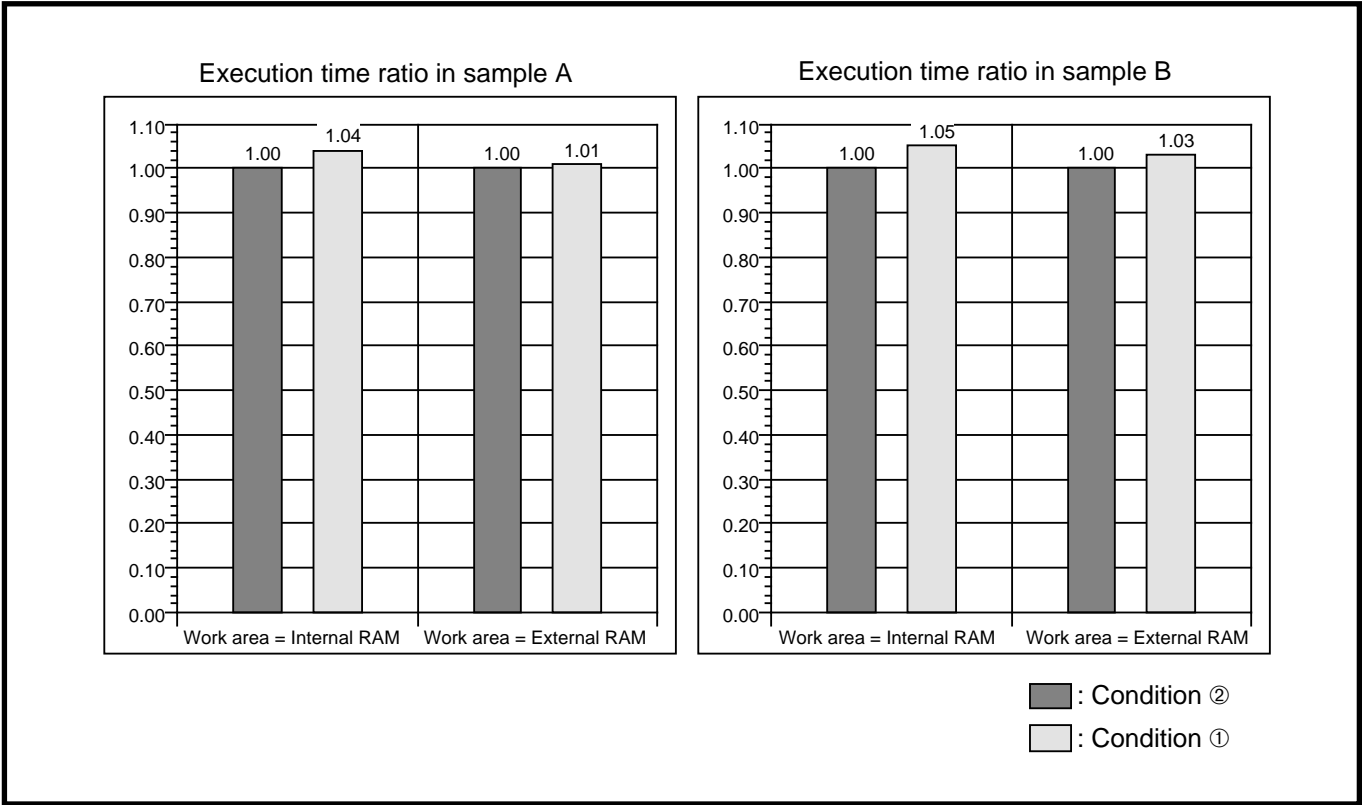

Fig. 17.2.3 Execution time ratio
Figure 17.2.3 shows that there is almost no difference between conditions ① and ② about the execution time.